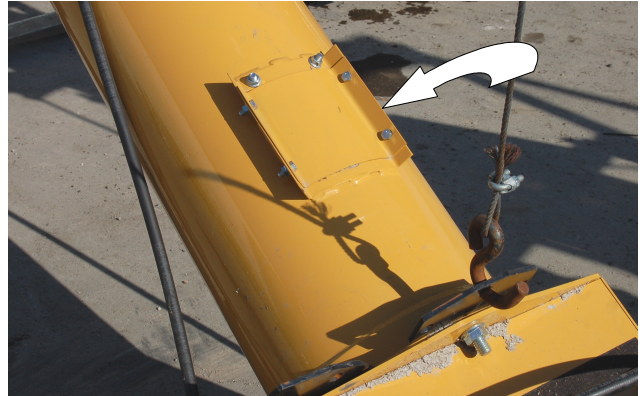

Fig. 27 ACCESS COVER
5.2.4 SWING AUGER BEARING REPLACEMENT - Fig. 27